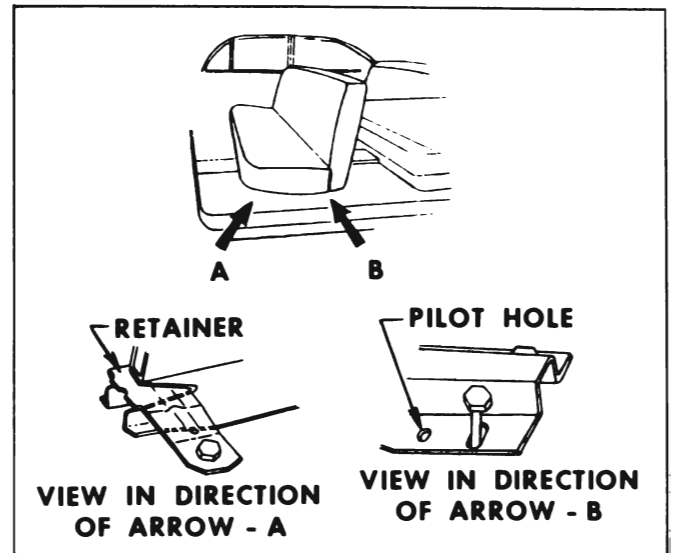

Figure 13-61 — Front Seat Repositioning
4. Enlarge pilot holes in seat adjuster located one (1) inch forward of attaching holes at rear of each seat adjuster to 3/8" diameter. See Figure 13-61.